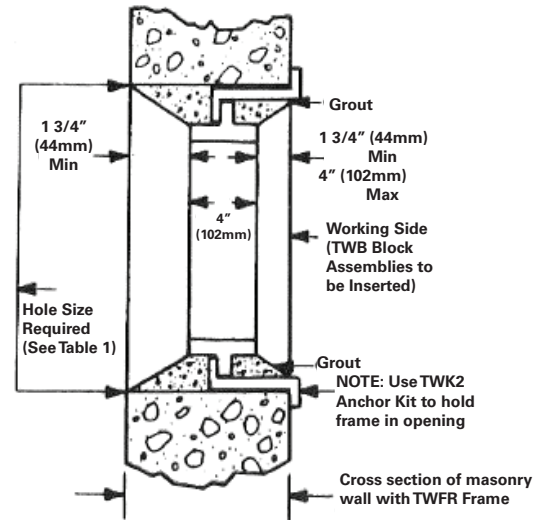

Figure 2: Grouted in Masonry Walls (See notes below)
6. Install the assembled frame into masonry wall or floor. (See Figures 2 and 3.) A minimum of 2 1/2 in. (63.5mm) of masonry is required between frame openings for both horizontal and vertical installations.